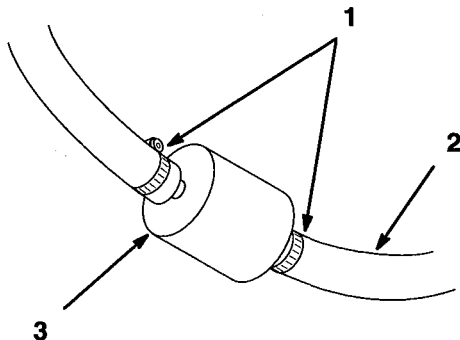

Figure 33
4. Squeeze the ends of the hose clamps together and slide them away from the filter (Fig. 33).